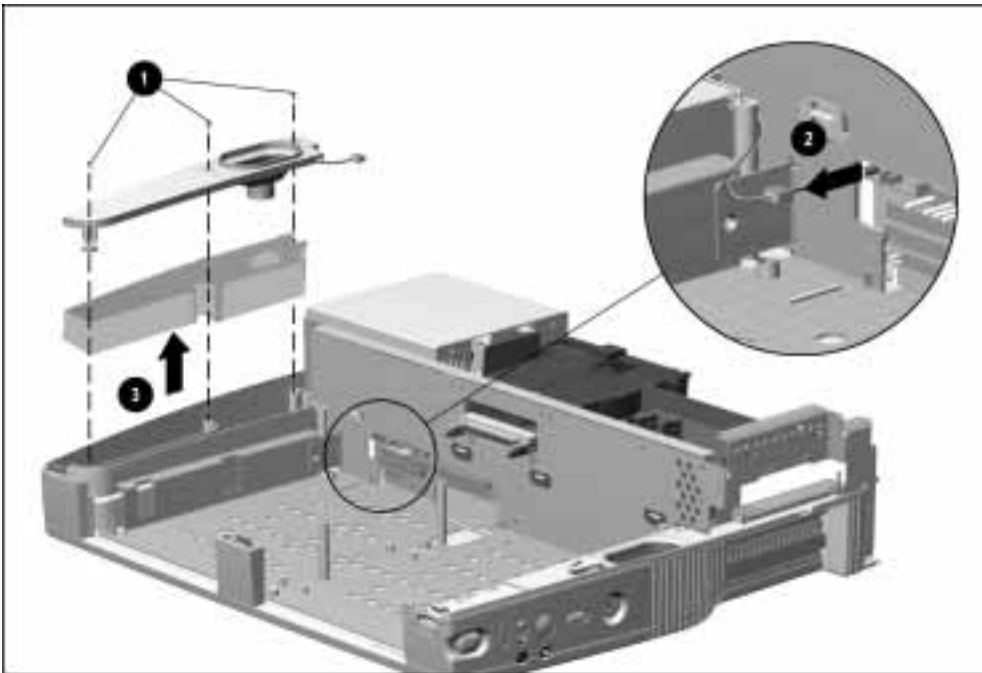

Figure 5-37. Removing the Left Speaker Assembly
6. Remove the three screws **1** securing the left speaker assembly to the base assembly (Figure 5-37).